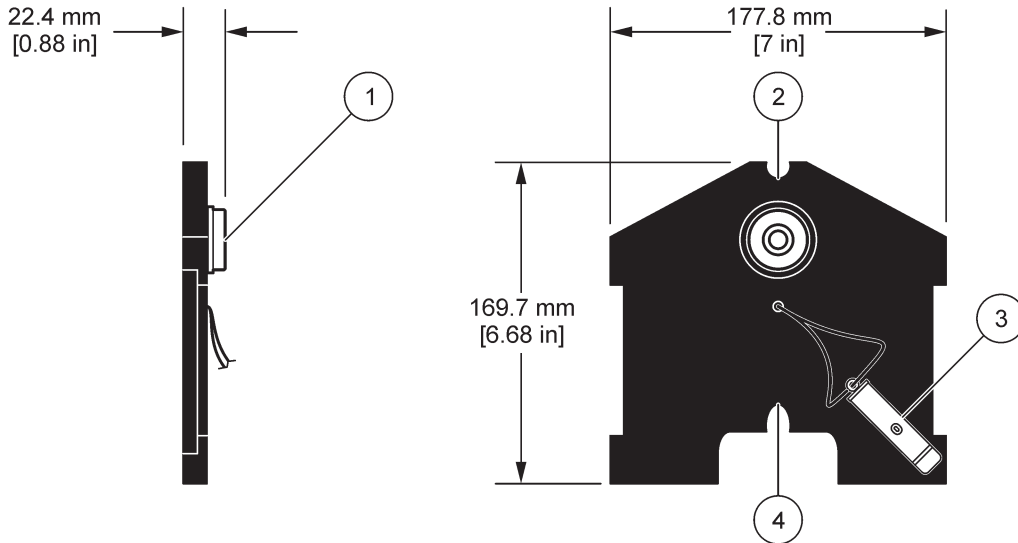

Figure 1 Laser alignment tool dimensions and features
The laser alignment tool is used to accurately position the supporting frame for the Flo-Dar sensor. The tool simulates the position and direction of the Flo-Dar velocity and level sensors with a laser pointer. Refer to Figure 1 for dimensions and features.
1. Snap the laser pointer in the velocity position (see Figure 1) of the alignment tool. Make sure the laser pointer is fully seated in the slot.
1. Snap the laser pointer in the level position (see Figure 1) of the alignment tool. Make sure the laser pointer is fully seated in the slot.